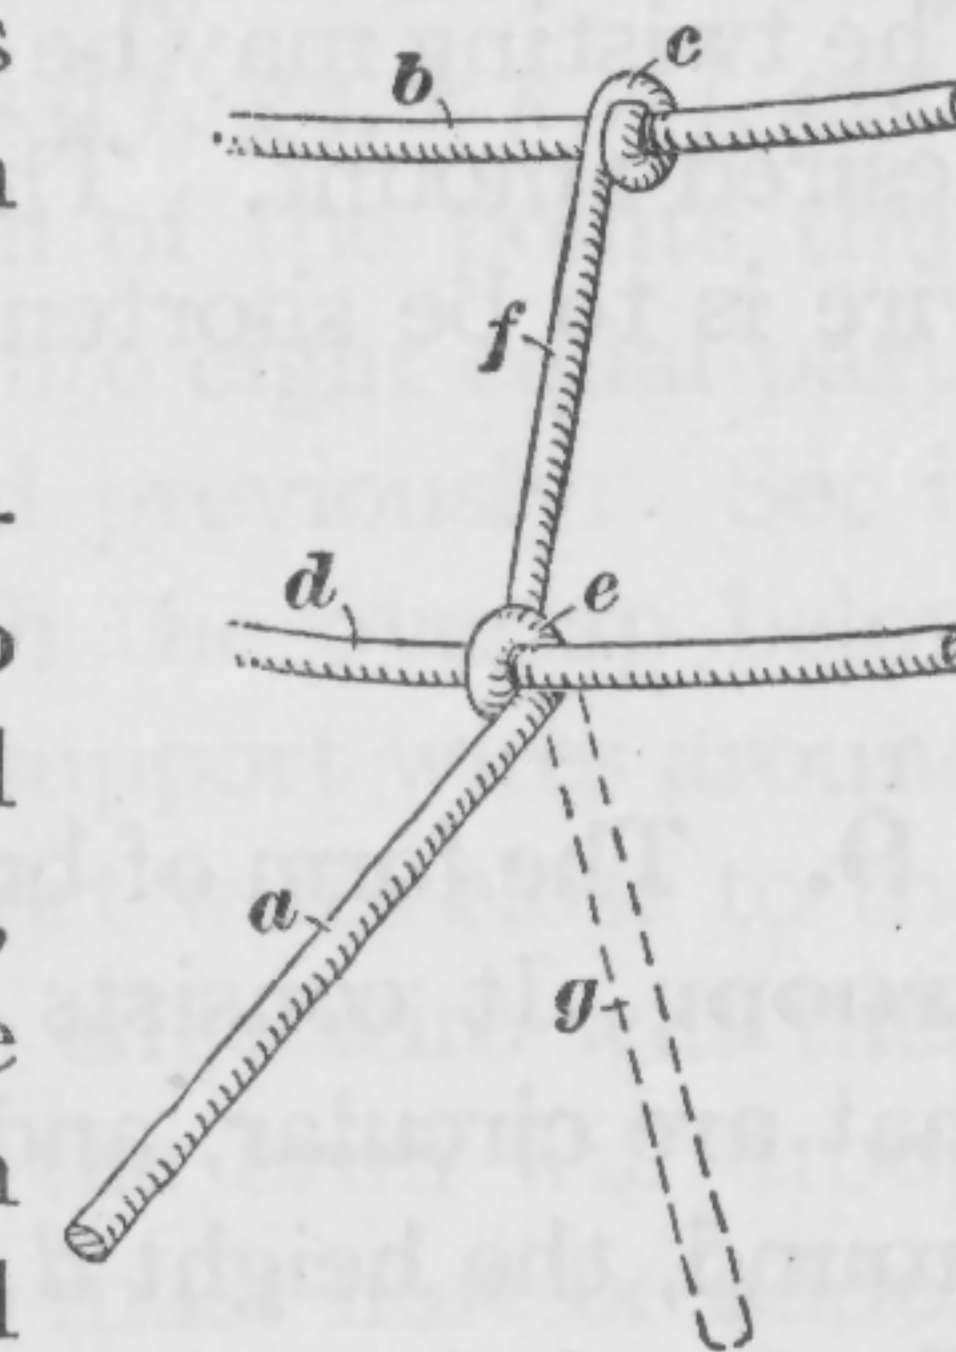

FIG. 4
7. **Shifting Position of Twist.**—In twisting a support wire to the head-size wire or to an edge wire it may happen that the twist will be made a little to one side of the correct point, so that the position of the twist will have to be changed. As an example, take the case shown in Fig. 4. The support wire *a* has been fastened to the brace wire *b* at *c* and has been twisted around the head-size wire *d* at a point *e* a little too far to the left. This twist, to be in its correct position, should be directly below the point *c*; so that the part *f* of the support wire will be square with both wires *b* and *d*. To shift the twist, the support wire does not have to be untwisted wholly from the head-size wire *d*. The end is